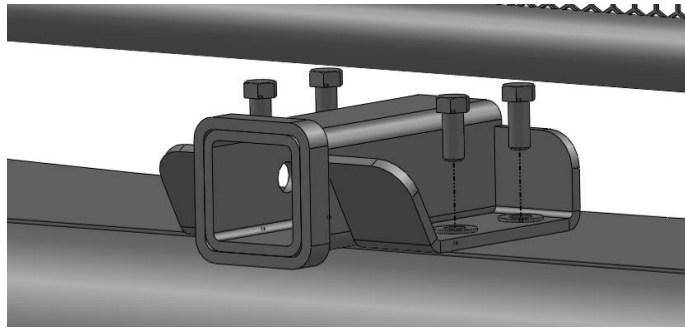

Figure 6
4. **OPTIONAL:** If installing the 2" receiver hitch accessory, attach it to the bumper with the provided 1/2"-13 hardware. **(Figure 6)**